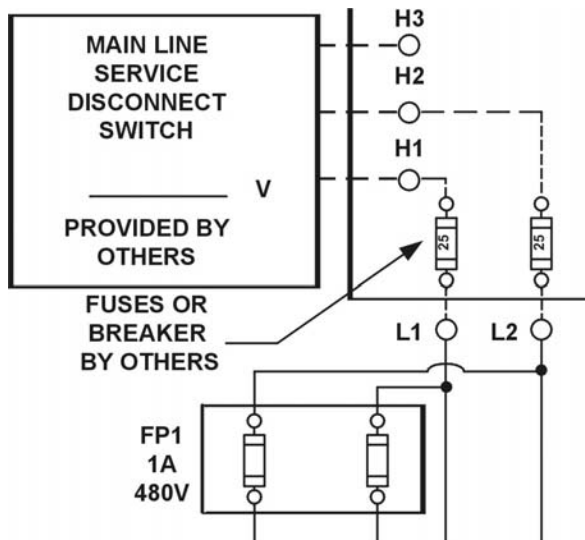

Figure 3-5
- D. The fourth circuit will only be required if a power transformer is used. A separate fused circuit from the primary side of the power transformer terminals H1 and H2 to the FP1 fuse block on the drive side of the controller. [See Figure 3-5.]